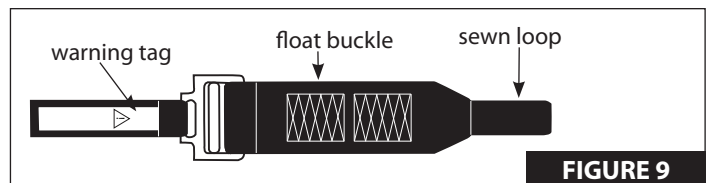

FIGURE 9
- Hold float buckle so warning tag faces upward. **SEE FIGURE 9.**